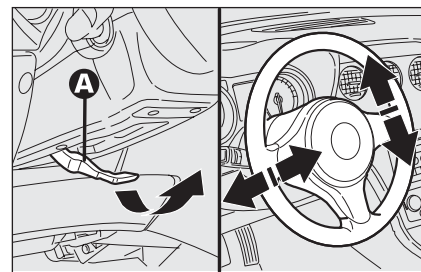

fig. 28
Release the lever **A**-fig. 28 pushing it downwards, then adjust the steering wheel as required. To lock the steering wheel, push lever **A** upwards.
- ☐ keep one of the buttons **C-fig. 28** pressed for 26 seconds at least (see paragraph “Seats” in this section).